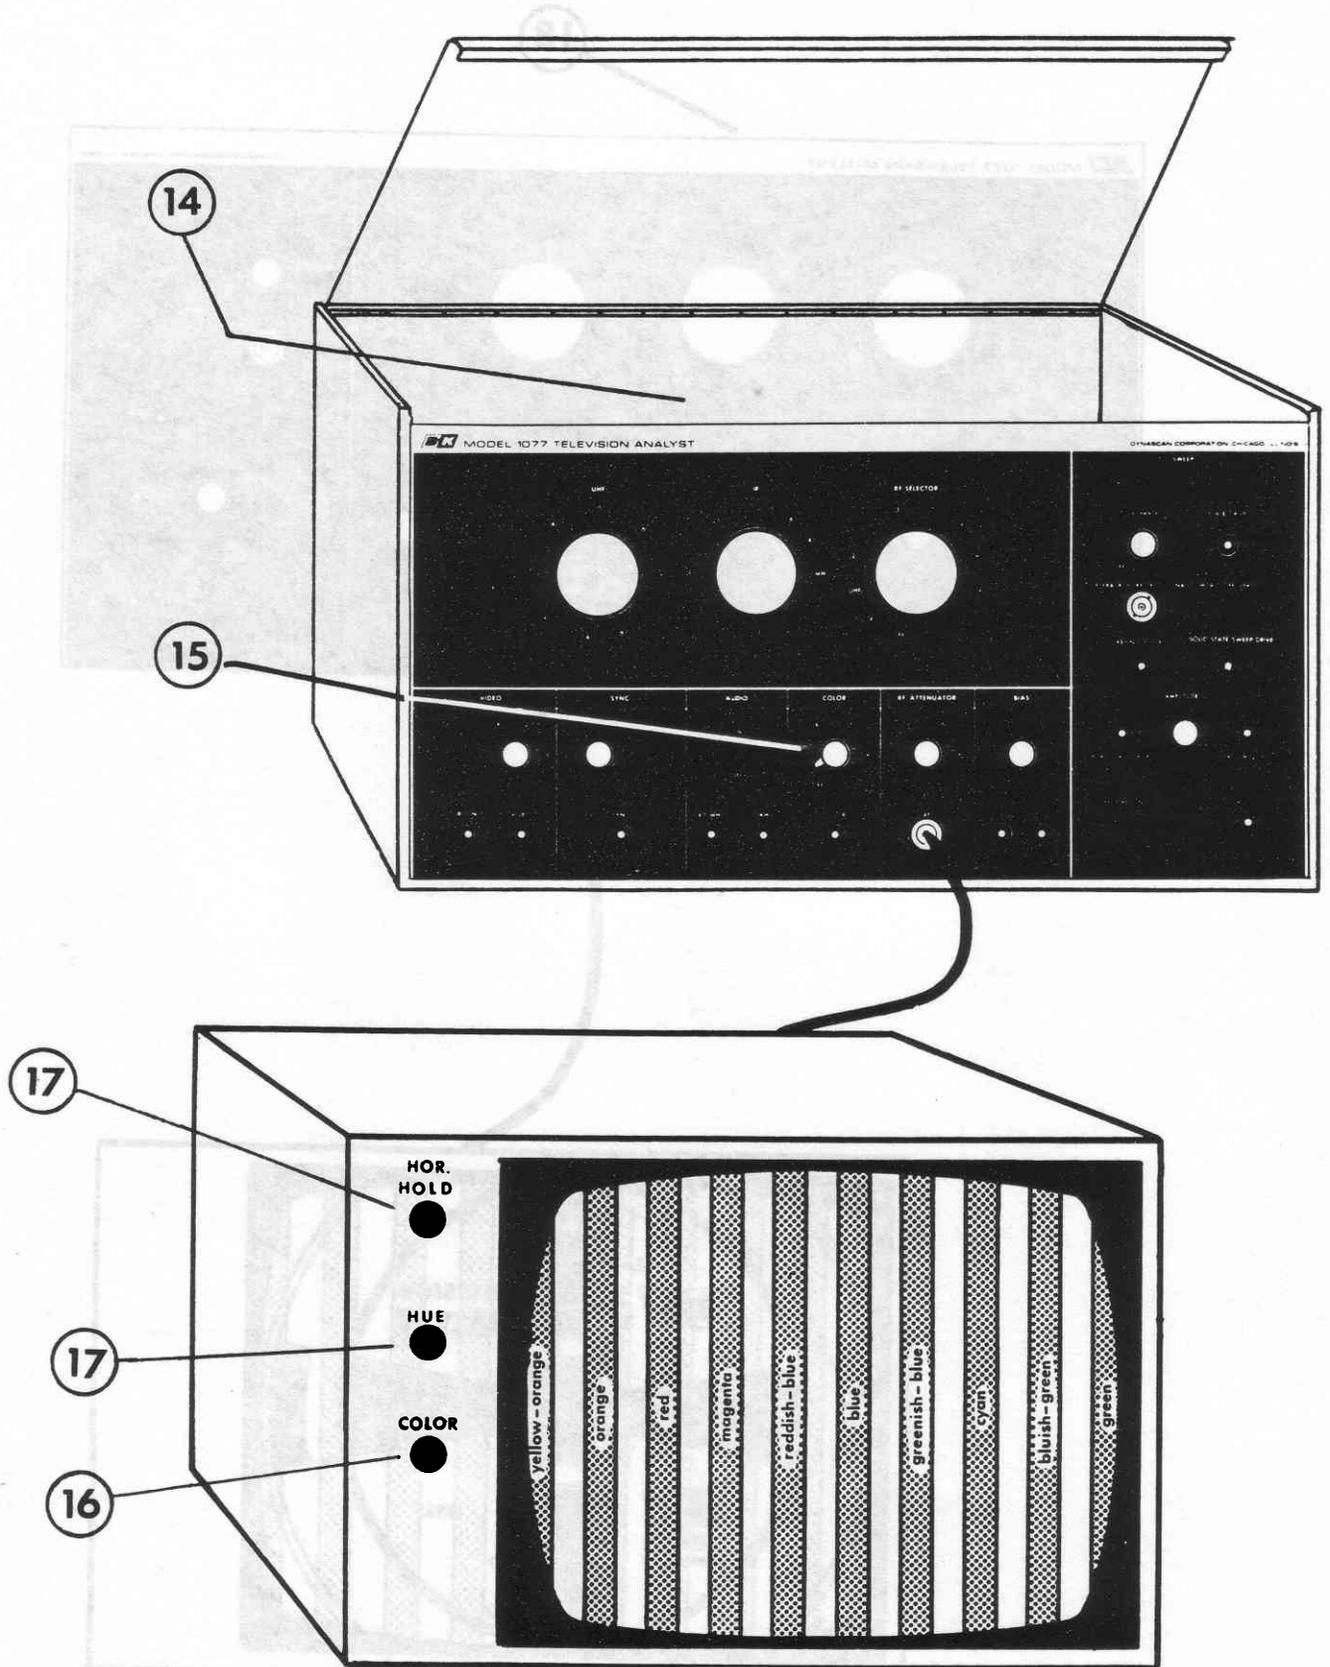

Figure 7. Control Settings for Color Test with VHF Signal
If the vhf signal is applied to a color television receiver, the remaining steps of this procedure should be followed (see Figure 7):
- 17. Adjust the hue control for the correct colors as shown in figure 7. The first and tenth color bars may not be visible on all television receivers. Adjustment of the horizontal hold control will usually shift the horizontal centering enough to show the outside bars.